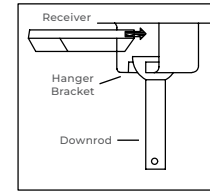
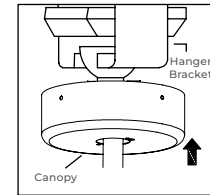
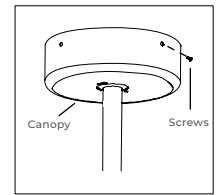
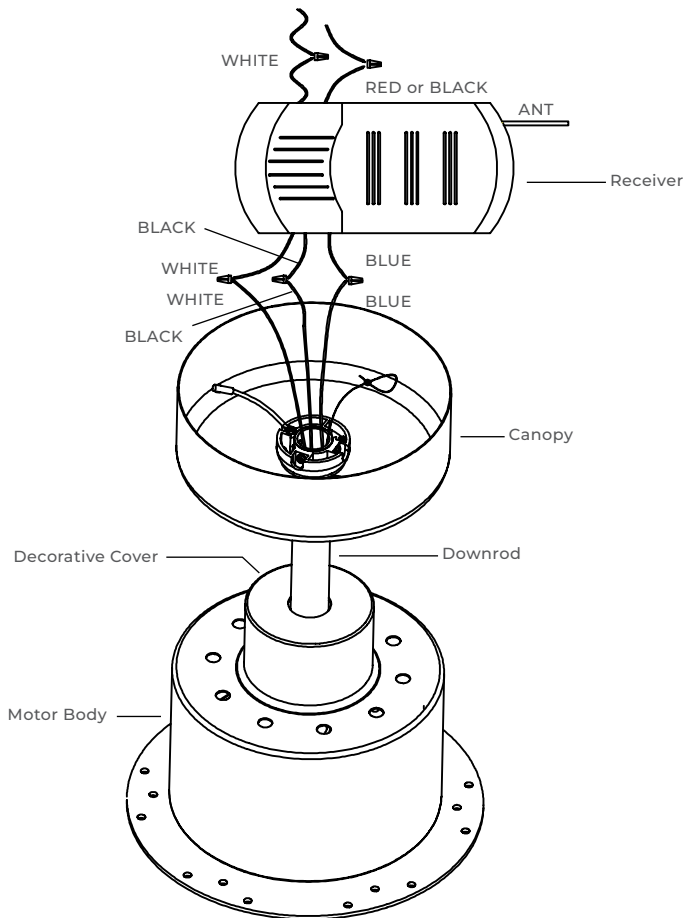

FIGURE 8
FIGURE 10
FIGURE 11
FIGURE 12
**D)** After ensuring the correct wiring (See Figure 12), insert the receiver into the hanger bracket as shown in Figure 8 and 9, install the canopy by covering the hanger bracket (Figure 10) and securing it with screws (Figure 11).